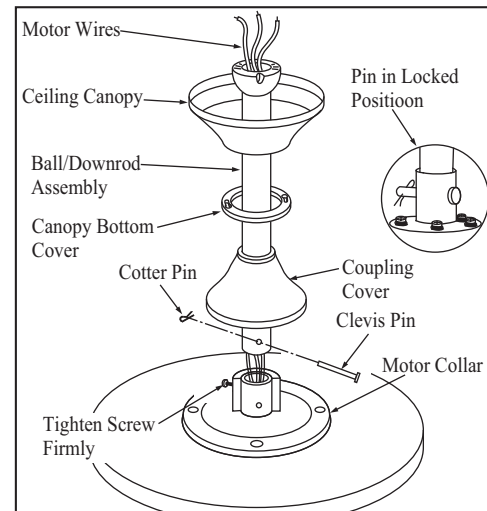

Figure 6
3. Remove the clevis pin, cotter pin and set screws from the top of the motor assembly. (Figure 6)
4. Route wires exiting from the top of the fan motor through the coupling cover, canopy cover, canopy and then through the ball/ downrod. (Figure 6)
5. Align the holes at the bottom of the downrod with the holes in the coupling on top of the motor housing (Figure 6). Carefully insert the clevis pin through the holes in the collar and downrod. Be careful not to jam the clevis pin against the wiring inside the downrod. Insert the cotter pin through the hole near the end of the clevis pin until it snaps into its locked position, as noted in the circle inset of Fig. 6.
6. Tighten two set screws at top of the fan motor collar firmly and evenly. (Fig. 6)